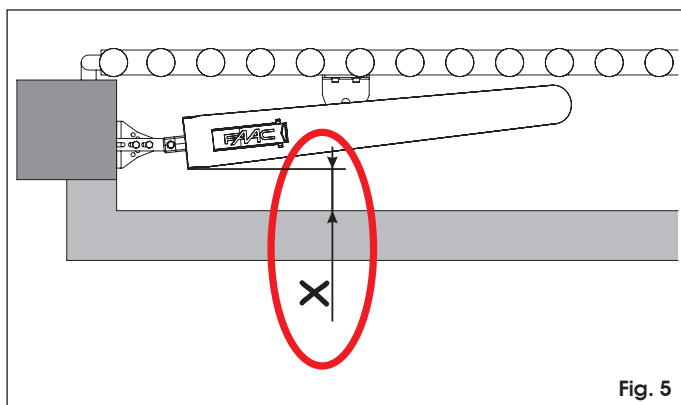

Fig. 5
**Once the operator has been installed, check that the value of "X" in figure 5 is greater than 500 mm. If the value of "X" is less than 500 mm, an impact test must be performed as described by standard UNI EN 12445, checking that the values found comply with what is established by standard UNI EN 12453. If the values found should not correspond to what is established by the standard, the area MUST be protected with a protecting device complying with standard UNI EN 12978.**